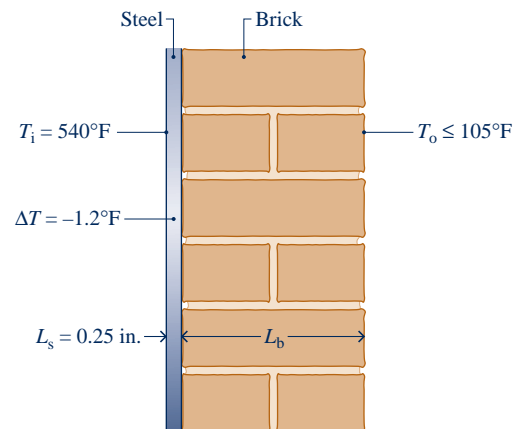

Fig. P2.45
2.45 As shown in Fig. P2.45, an oven wall consists of a 0.25-in.-thick layer of steel ($\kappa_s = 8.7 \text{ Btu/h} \cdot \text{ft} \cdot ^\circ\text{R}$) and a layer of brick ($\kappa_b = 0.42 \text{ Btu/h} \cdot \text{ft} \cdot ^\circ\text{R}$). At steady state, a temperature decrease of 1.2°F occurs over the steel layer. The inner temperature of the steel layer is 540°F . If the temperature of the outer surface of the brick must be no greater than 105°F determine the minimum thickness of brick, in in. , that ensures this limit is met.